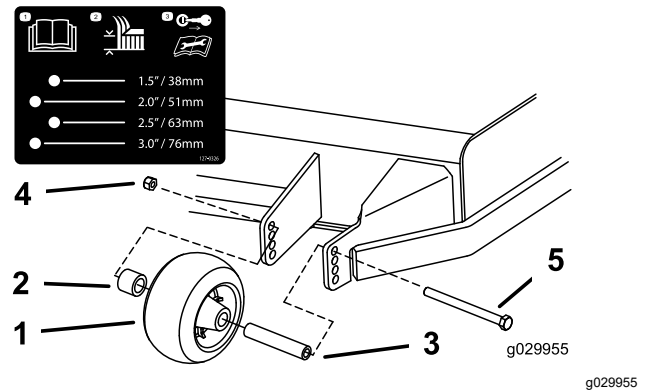
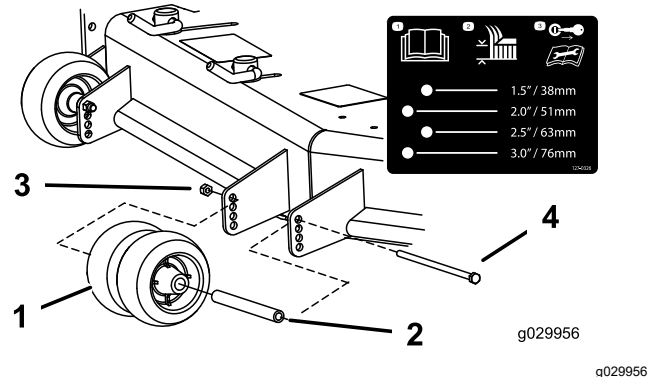
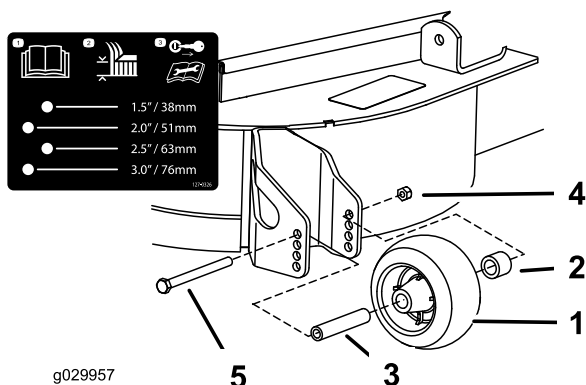

Figure 30
Figure 31
Figure 32
3. Adjust the anti-scalp rollers as shown in Figure 30, Figure 31, and Figure 32.